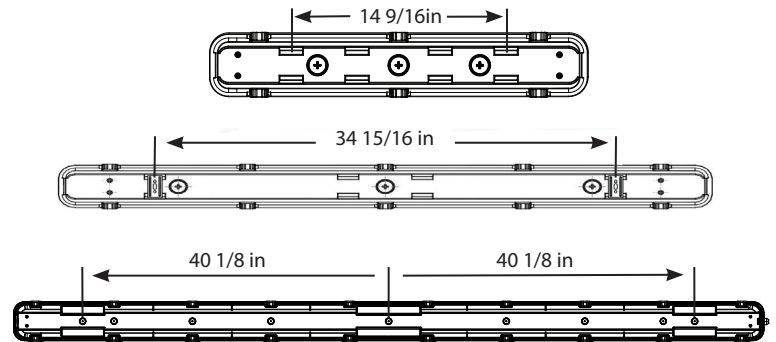
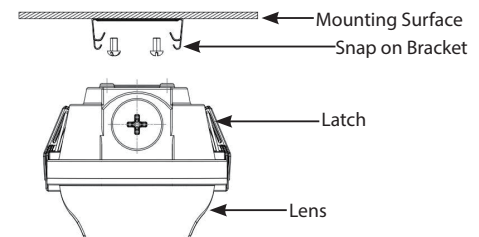
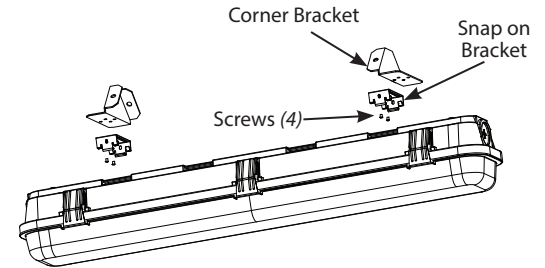

Fig. 1
Fig. 3
Fig: 5
1. Use appropriate mounting hardware (*not supplied*) to secure the **Snap on Brackets** to mounting surface. Refer to recommended **Snap on Bracket** spacing in Fig. 1 for SEAL 2ft and SEAL 4ft & 8ft.
**WARNING: Mount Snap on Brackets symmetrical about the center as shown in Fig. 1. Snap on Brackets must be aligned with each other to secure Housing.**
8. Snap **Housing** on **Snap on Brackets** as shown in Fig. 3.
1. Snap **Housing** on **Snap on Brackets** as shown in Fig. 3.
Ordered separately - Fig. 5 & 6:
1. Use appropriate mounting hardware (*not provided*) to secure the **Corner Brackets** (2) to the mounting surface as shown in Fig 5. **Corner Brackets** must face towards each other. Recommended **Corner Bracket** distance center to center is 14-13/25" for SEAL 2ft and 34-19/20" for SEAL 4ft & SEAL 8ft.
2. Secure (2) **Snap on Brackets** (*supplied standard with Housing*) to **Corner Brackets** (2) with **Screws** (4 *provided*).
3. Snap **Housing** on **Snap on Brackets** (2) as shown in Fig. 3, Page 1. Ensure that the **Housing** is secure on **Snap on Brackets** (2) onto the grooves on **Lens** as shown in Fig. 1, Page 1.